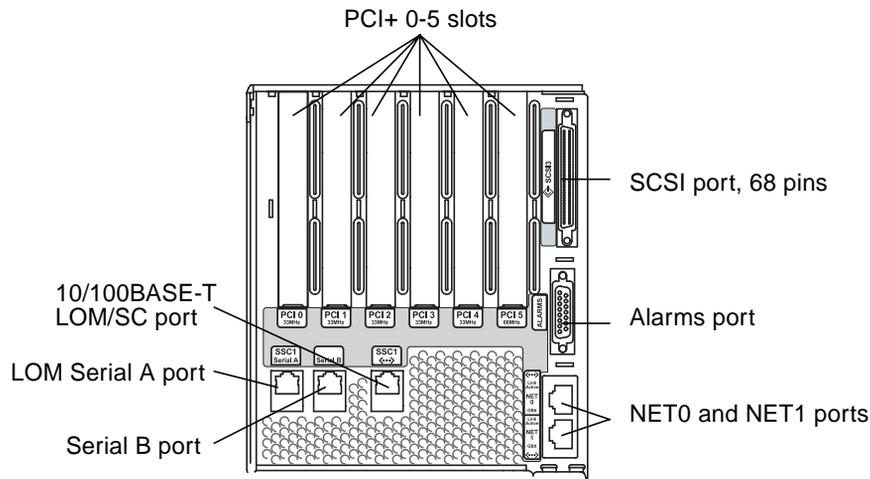

FIGURE 1-26 System Controller and I/O Assembly Locations
1. Connect the administrative console to the LOM Serial A port (FIGURE 1-26).
1. **Connect the 10/100BASE-T LOM Ethernet port to the chosen administrative console (local hub, router, or switch)(FIGURE 1-26).**
1. Connect one end of the I/O Ethernet cable to the NET0/NET1 Ethernet port (FIGURE 1-26).
1. Connect a terminal to the system controller board serial port (FIGURE 1-26).